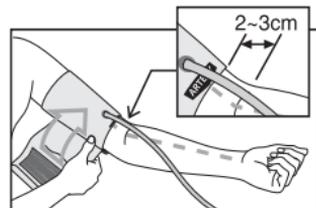

Fig. 8
3. Wrap the cuff around your upper arm so that the bottom of the cuff is approximately 2-3 cm above your elbow. The sign "ARTERY" should be over the arm artery (Fig. 8).